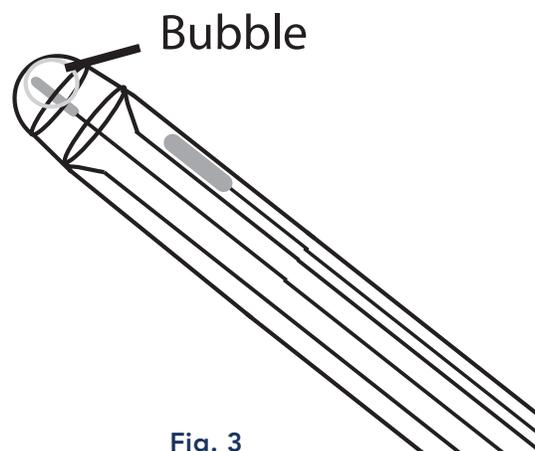

Fig. 3
2. During shipment the air bubble in the electrode's stem may move into the bulb area (FIG. 3). If bubbles are seen in the bulb area, hold the electrode by its top cap and shake downwards as is done with a clinical thermometer (FIG 3, next page).